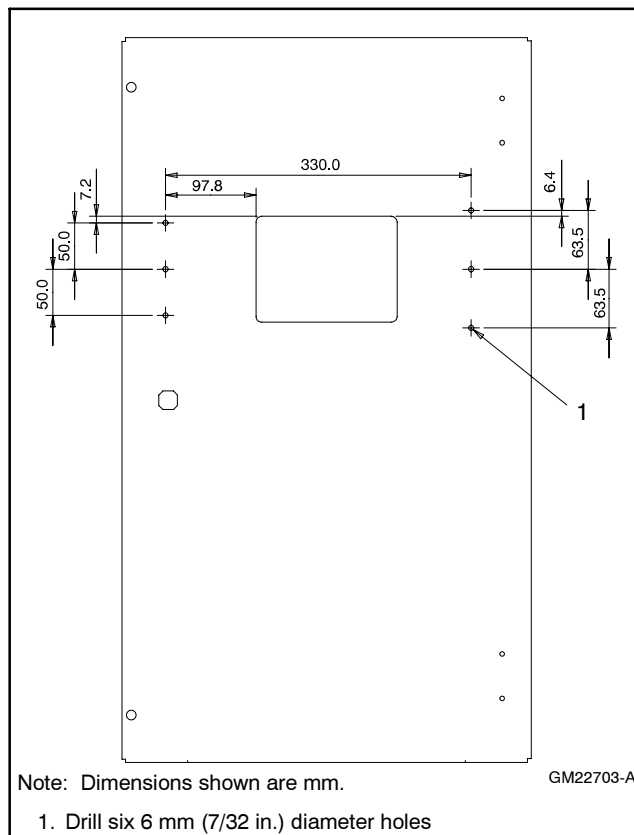

Figure 3 Drill Holes in Transfer Switch Door
- 2.1 Drill six 6 mm (7/32 in.) diameter holes in the transfer switch door as shown in Figure 3. Dimensions shown are mm. Remove burrs and metal chips.